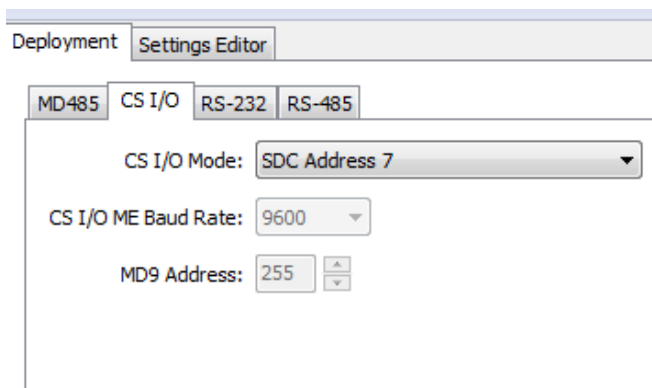

FIGURE 8-14. MD485 CS I/O tab
- 5. Click the **CS I/O** port tab. Set the mode based on the type of datalogger being used. Below shows the configuration for a CR1000 with SDC7 for the address (FIGURE 8-14).